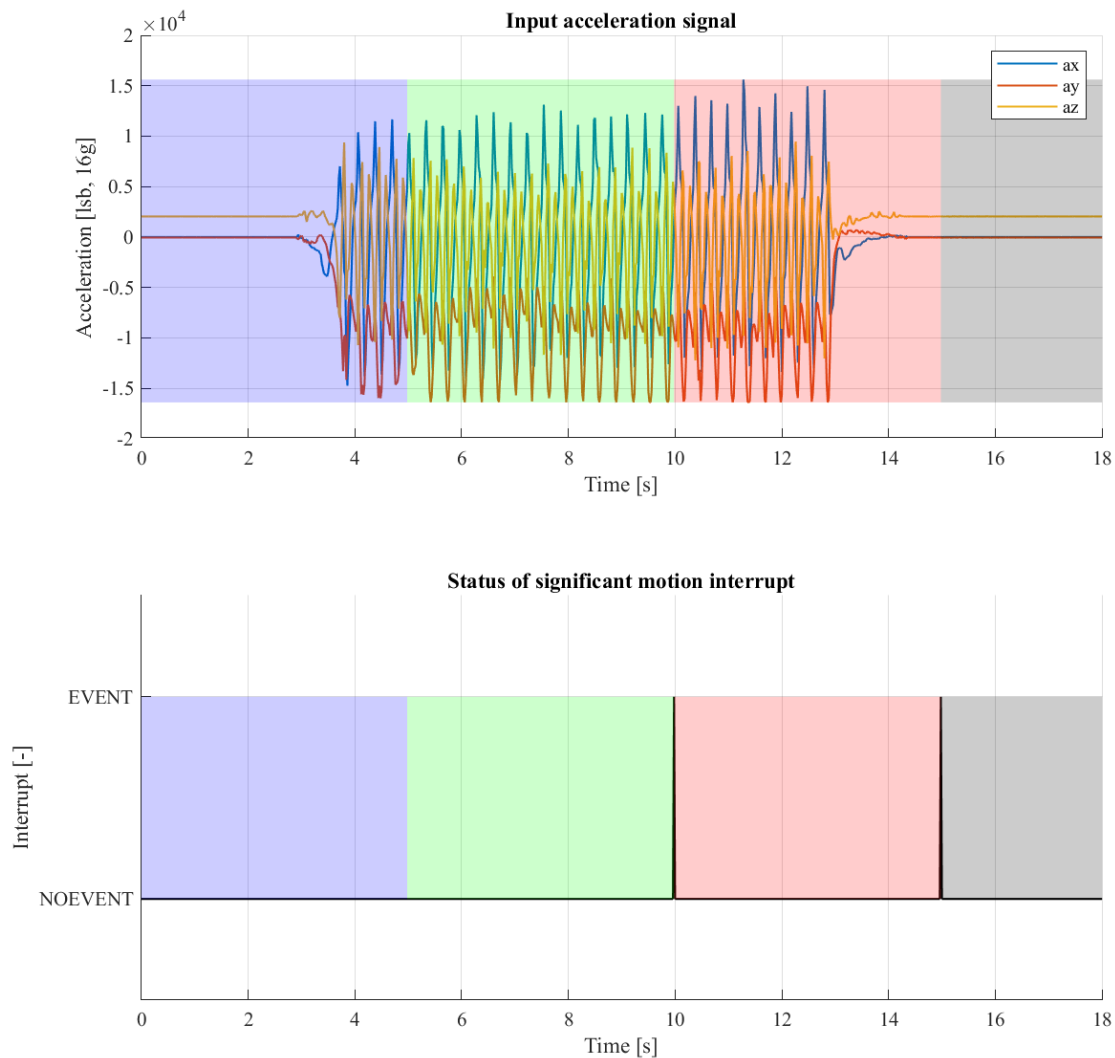

Figure 24: Significant motion interrupt detection behavior for walking use-case
Example An example for the behavior of the significant motion detection for a walking scenario is depicted in figure 24, where `SIG_MOTION.block_size` is set to 5 seconds (0x00FA).
1. Large initial part of segment as STILL with small part of segment as WALKING. (Blue segment 1 in figure 24)
2. Full segment as WALKING. (Green segment 2 in figure 24)
3. Initial large part of segment as WALKING with remaining being STILL. (Red segment 3 in figure 24)